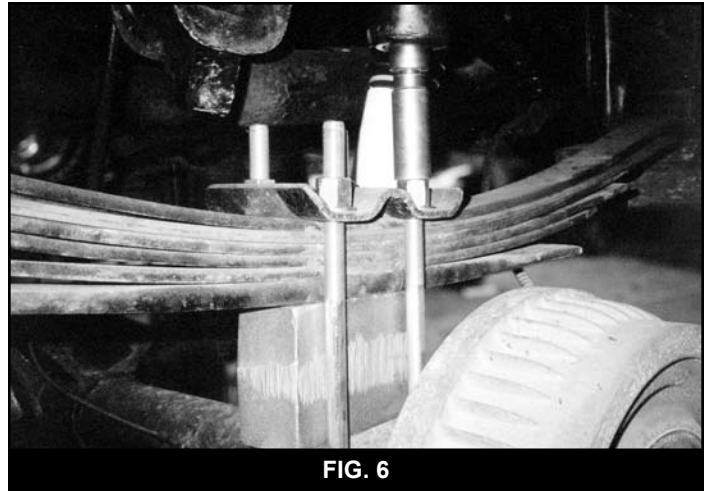

FIG. 6
8. Place lift blocks on top of axle spring seat, tapered end forward and secure with supplied u-bolts. Torque u-bolts to 130-150 ft. lbs. (Fig.6)